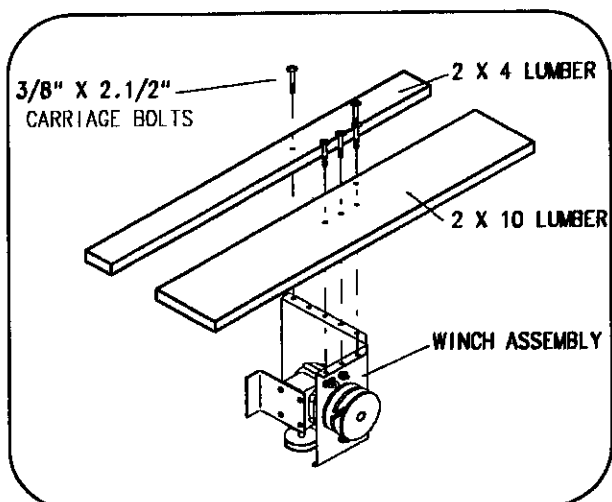

Figure 11
4. Mount the Winch supports securely to the ceiling purlins. **BE SURE WINCH SUPPORTS SPAN THREE (3) PURLINS.** Winch Cable Drum must be centered through the center line of the main cable run as shown in Figure 11.